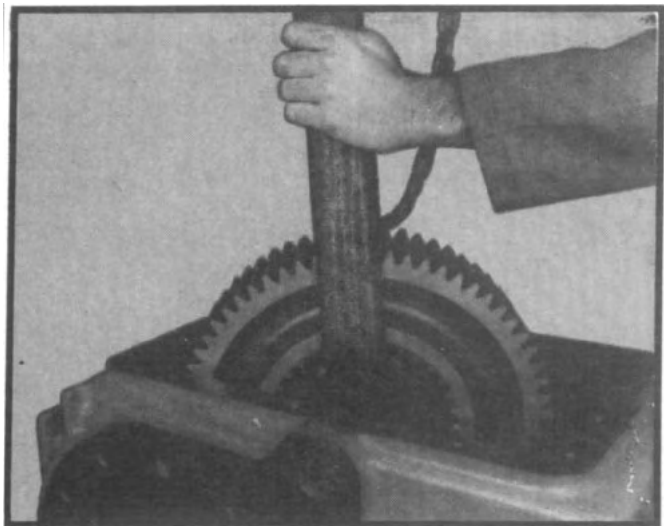

Fig. 75
3.25 Lift underdrive gear out of the case. (See fig. 75.)